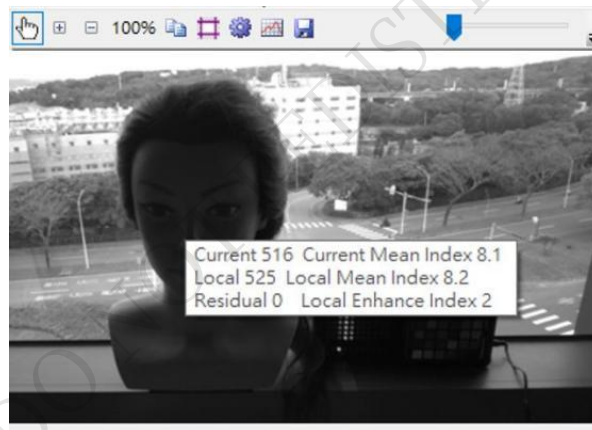

Fig 6.119 Tuning Info from Preview
- Move cursor on the preview, get Current Mean Index for tuning user defined LTM Curve. (Fig 6.119)
- Move cursor on the preview, get Local Mean Index for tuning user defined Scale Curve. (Fig 6.119)
- If Residual Value < 0, tune the Darker Enhance Curve. Otherwise, tune Brighter Enhance Curve. (Fig 6.119)